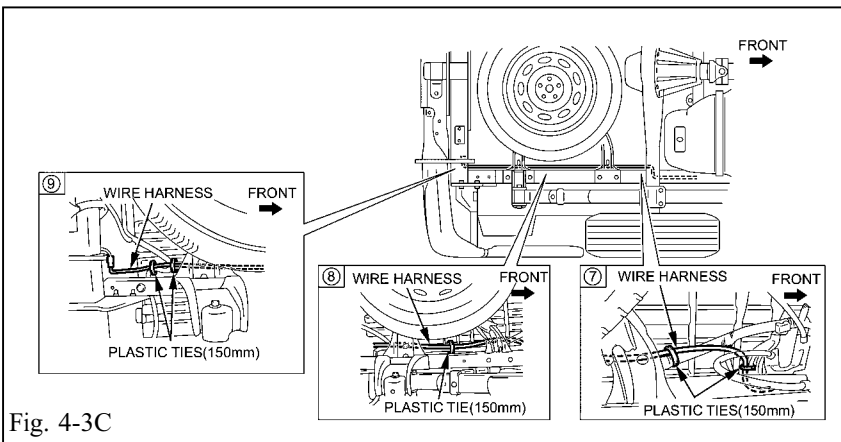

Fig. 4-3C
-  (2) Secure the wire harness so that it does not interfere with the brake pipe, fuel pipe, and others. Use the amount of ties listed in the table below. (Fig. 4-3C)